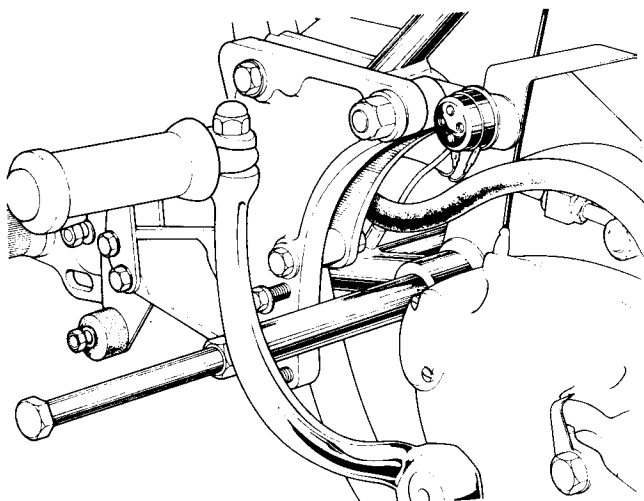

Fig. F8 Aligning swinging arm spindle with swinging arm bore
- 25 Using a suitable bolt with locknut screwed into the right end of the swinging arm pivot spindle, position the lock screw hole upwards to align with the pivot tube hole (see *Fig. F8*). Align the pivot spindle with the swinging arm bore and push fully home.